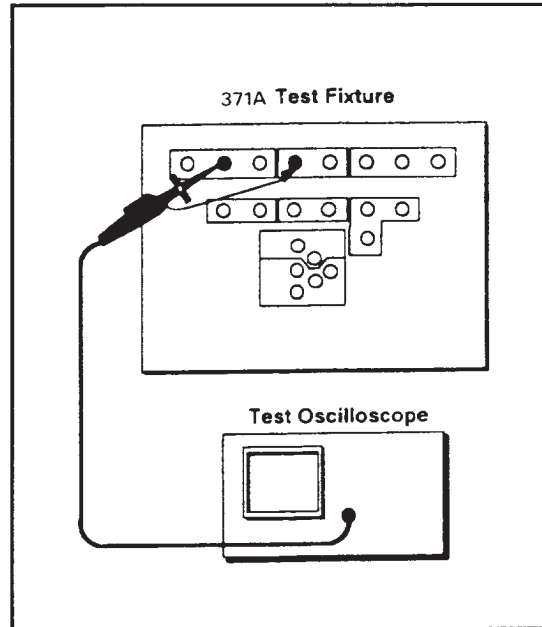

Figure 4-26. Setup for checking pulse form.
1. Connect the X1 probe tip from the test oscilloscope to the HIGH CURRENT and the ground lead to the COMMON terminals with plugs as shown in Figure 4-26.